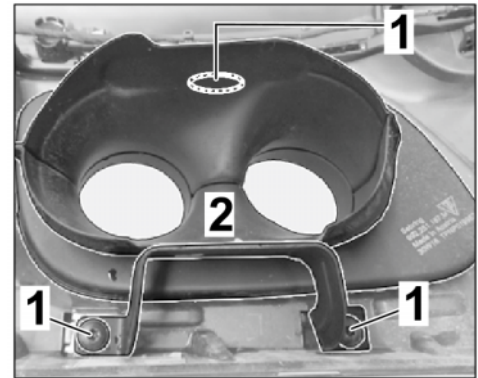

Figure 8
3.1.1 Remove tailpipe cover trim frame (left ⇒ *Figure 8/ right*). ⇒ *Workshop Manual '637019 Removing and installing trim frame for tailpipe cover'*